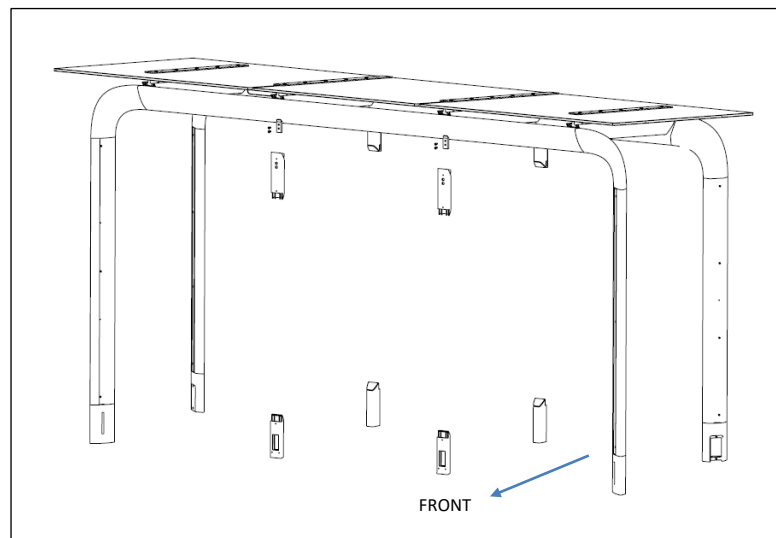

Fig. H3 – glass post orientation
2. Attach upper posts to horizontal beams and check for level – note orientation, see Figs. H3 and H4. Securely tighten.